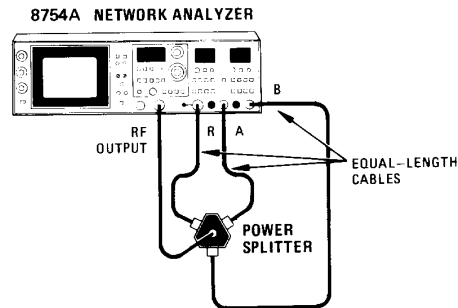

Figure 4-18. Magnitude Display Accuracy Test Setup
1. Connect equipment as shown in Figure 4-18.
- SWEEP WIDTH MHz 0 (CW)